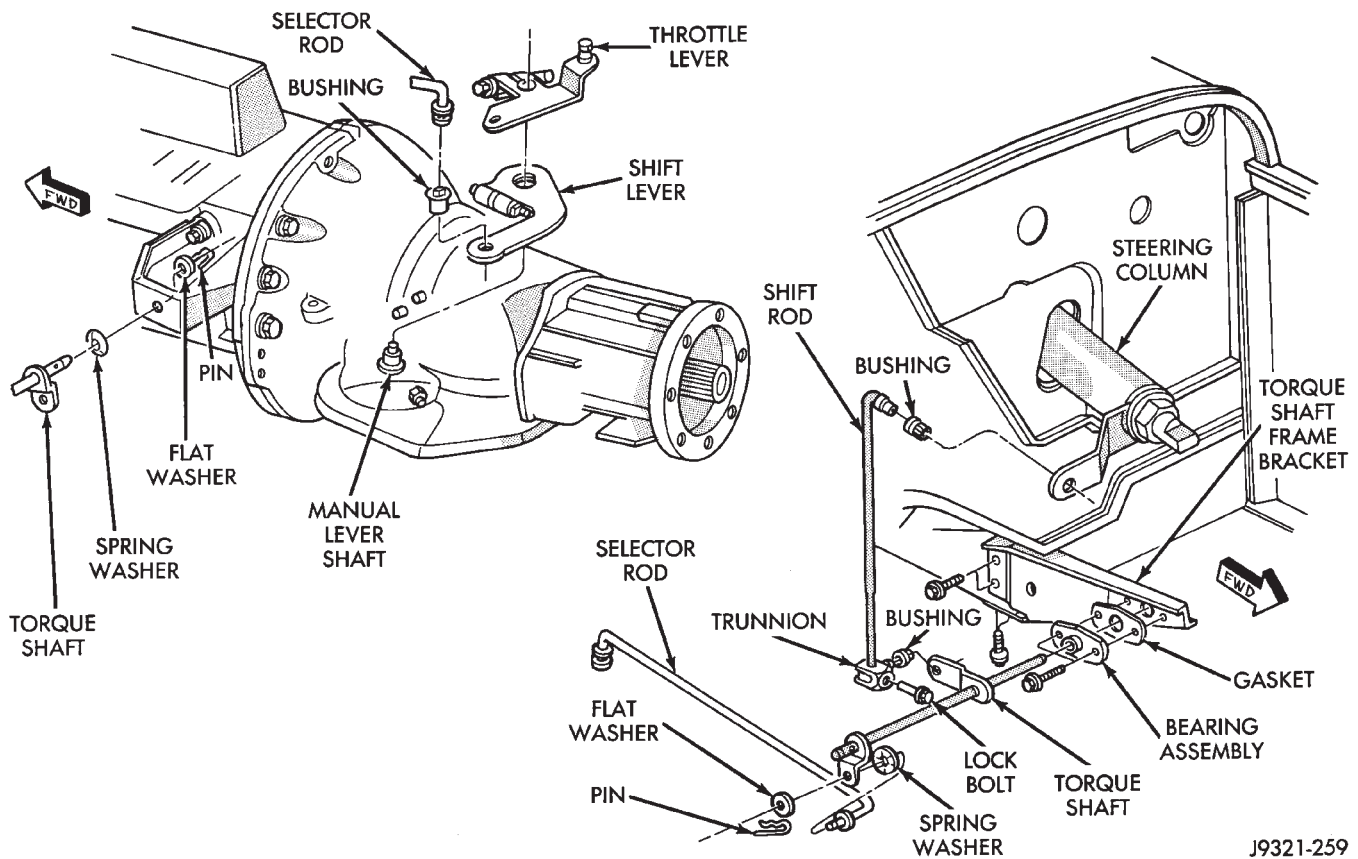

Fig. 2 Gearshift Linkage (YJ)
(1) Check linkage adjustment by starting engine in Park and Neutral.
(2) Adjustment is OK if engine starts only in park and Neutral. Adjustment is incorrect if engine starts in one but not both positions.
(3) If engine starts in any position other than Park or Neutral, or if engine will not start at all, park/neutral position switch may be faulty.
(4) Shift transmission into Park.
(5) Raise vehicle.
(6) Check condition of shift rods, bellcrank, bellcrank brackets and linkage bushings/grommets (Fig. 2). Tighten, repair, replace worn, damaged parts. Do not attempt adjustment if linkage components are worn or damaged.
(7) Loosen shift rod trunnion lock bolt or nut. Be sure upper shift rod slides freely in trunnion (Fig. 2). Also be sure shift rods and bellcrank rotate freely and do not bind at any point.
(8) Verify that manual lever is in Park detent (Fig. 2). Move lever all the way rearward to be sure it is in Park.
(9) Check for positive engagement of park lock by attempting to rotate propeller shaft. Shaft will not turn when park pawl is engaged.
(10) Adjust shift rod trunnion to obtain free pin fit in bellcrank arm and tighten trunnion lock bolt or nut. Prevent shift rod from turning while tightening bolt or nut. Gearshift linkage lash must be eliminated to obtain proper adjustment. Eliminate lash by pulling downward on shift rod and pressing upward on bellcrank.
(11) Confirm proper adjustment by starting engine in Park and Neutral. Engine should start in these positions only. **If engine starts in any position other than Park or Neutral, adjustment is incorrect or neutral switch is faulty.**
(12) Lower vehicle and verify that steering lock operates correctly.